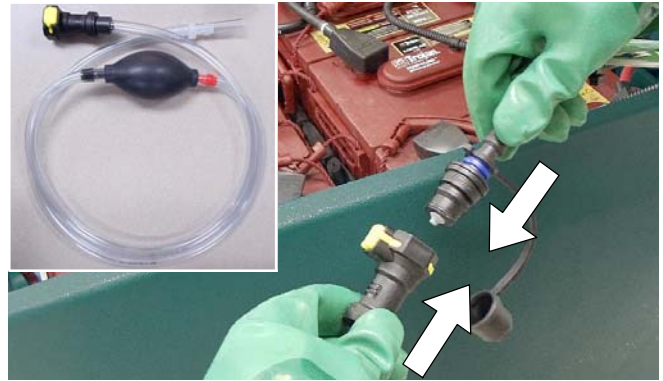

FIG. 80
3. Locate the battery fill hose coupler inside the battery compartment. Remove the dust cap and connect the hand pump hose (Figure 80).